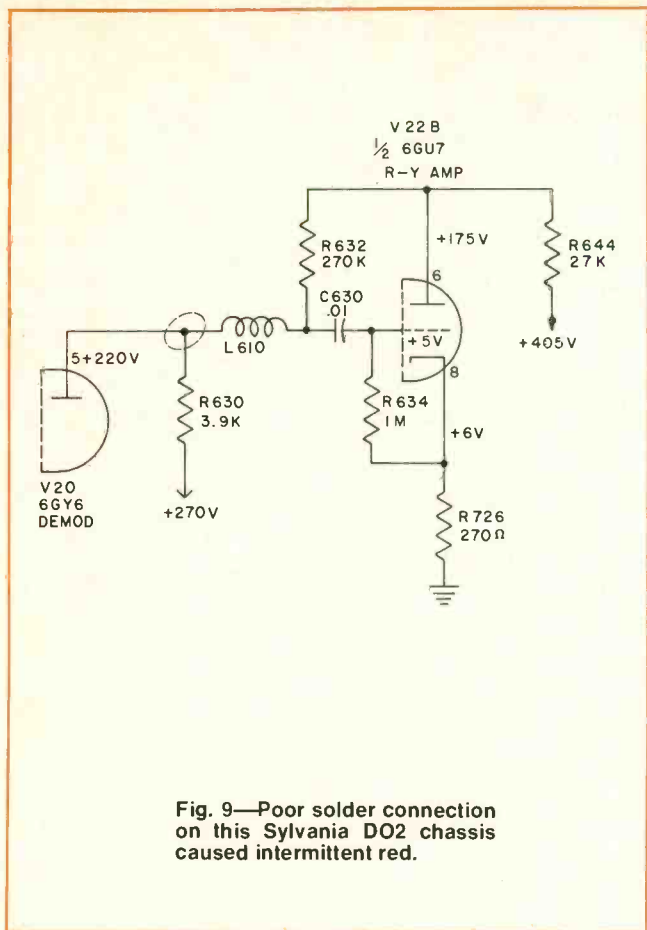

Fig. 9—Poor solder connection on this Sylvania DO2 chassis caused intermittent red.
**Intermittent red.** When the color section of this Sylvania DO2 became intermittent, the symptoms on the screen were predominately green and blue. The red color was missing. But a quick scope check at the 6GY6 "X" demodulator grid showed a perfect waveform. But red was missing from the plate of the tube. "Poking" around the PC board at L610, the color would go out or it would return to normal. A poor soldered joint was discovered at L610 and R630 — feeding to element 6 of the "X" demodulator tube (see Fig. 9).